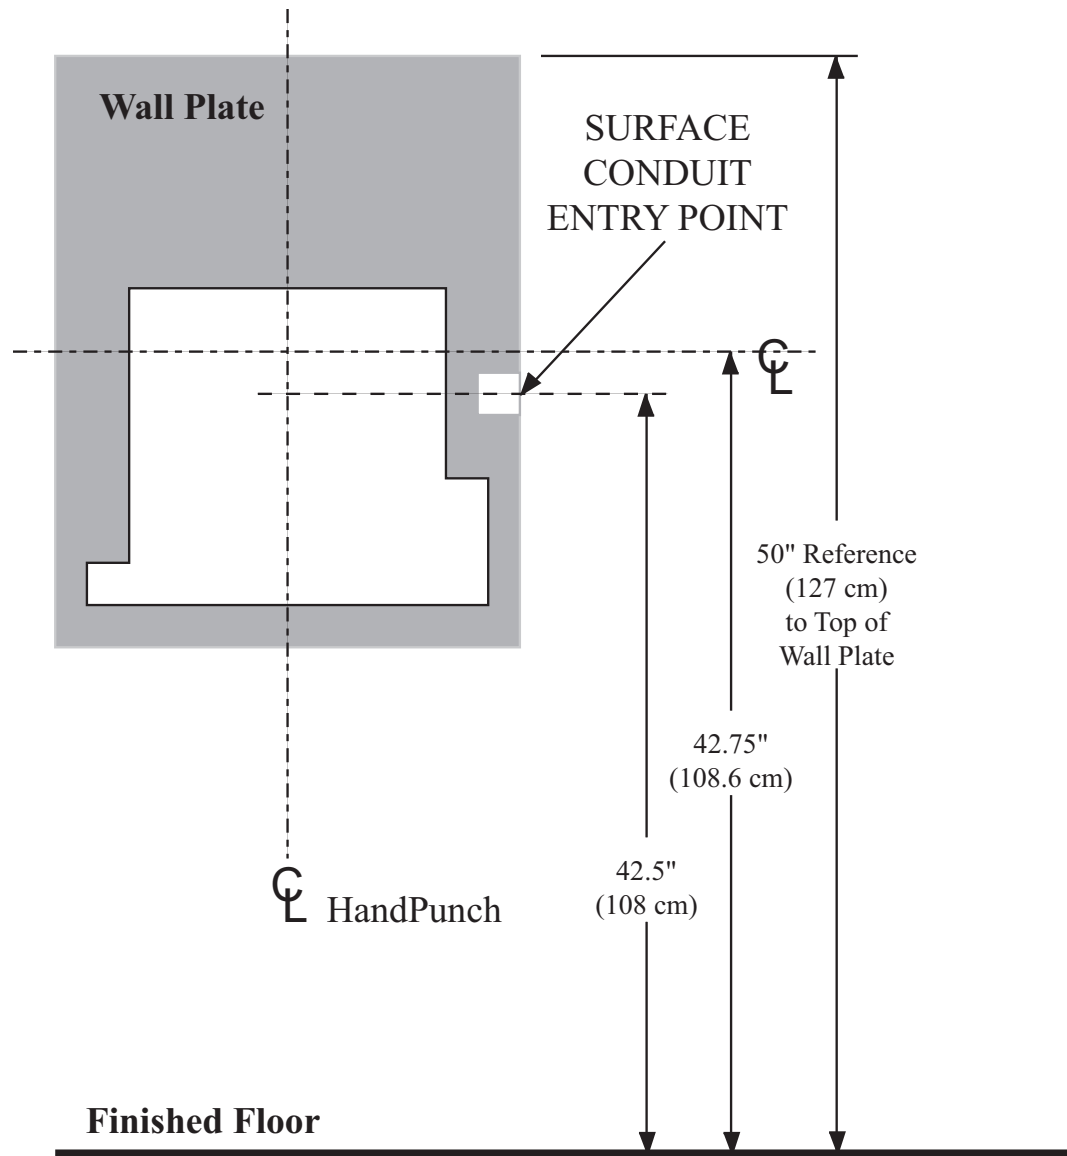

Figure 3-2: HandPunch Wire Routing Layout
Before you begin installation, check the site blueprints, riser diagrams, and specifications for important information about HandPunch location and for other systems that connect to the HandPunch. Look for any existing wall preparations and wiring that other contractors may have installed for the HandPunch. A wire routing layout diagram (see Figure 3-2 on page 14) is provided to assist in planning wire routing.
To make the modem connection, a telephone jack must be installed on or in the wall behind the modem HandPunch terminal. Position the RJ-11 jack location using the template provided in this manual (see Figure 3-2 on page 14). The short black cable provided with the modem HandPunch connects the terminal to the telephone jack. Figure 4-4 on page 18 a wiring diagram for a modem to host computer connection.
1. Refer to Figure 3-2 on page 14 for a template diagram to assist in routing wiring.